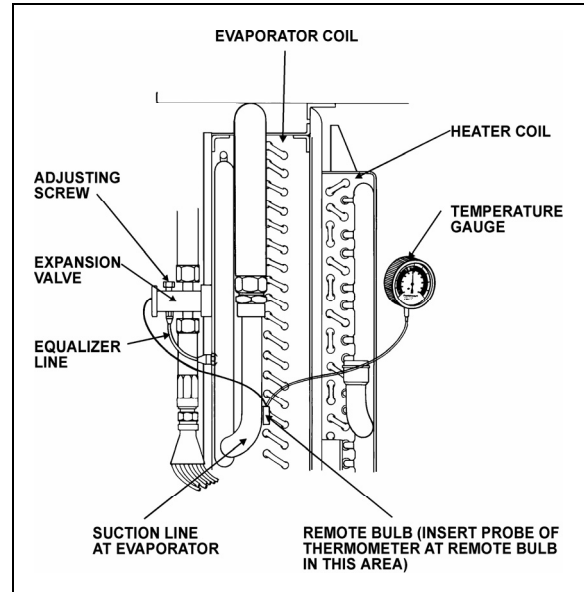

FIGURE 38: SUPERHEAT ADJUSTMENT INSTALLATION 22046
The starting method of adjusting the superheat is to unscrew completely the main evaporator expansion valve adjusting screw, then screw in 13 turns clockwise for 134A (Fig. 38). Afterwards, the following procedure should be followed:
3. Install a remote reading thermometer to the evaporator outlet line near the existing remote bulb (Fig. 38).